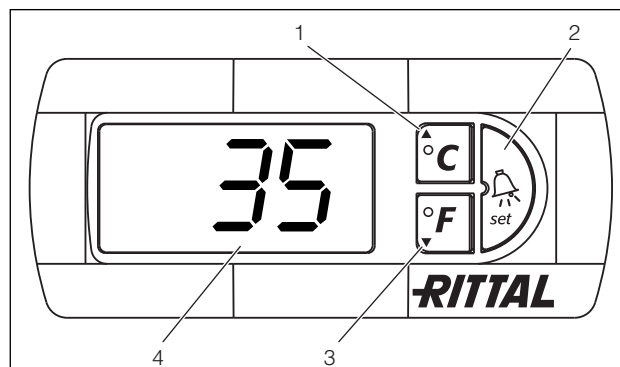

Fig. 36: Comfort controller
The Comfort controller has a 7-segment display (Fig. 36, no. 4). After switching on the power supply, the current software version initially appears on this display for approx. 2 seconds. In regular operation, the display shows both the temperature (in degrees Celsius or Fahrenheit – users may switch between the two) and any error messages.
The current enclosure internal temperature is usually displayed permanently. In the event of an error message, this will alternate with the temperature display. The unit is programmed using buttons 1 – 3 (Fig. 36). The relevant parameters likewise appear in the display.
- Press buttons 1 and 2 simultaneously (Fig. 36) for at least 5 sec.
Using buttons 1, 2 and 3 (Fig. 36) you can change 24 parameters within the preset ranges (min. value – max. value).